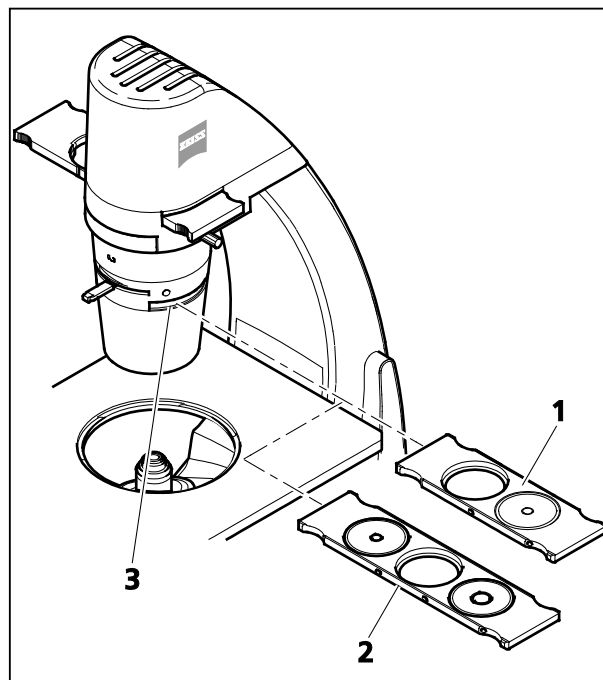

Fig. 6 Inserting the phase contrast slider
The 2-position Ph slider (Fig. 6/1) and the 3-position Ph slider (Fig. 6/2) are delivered completely, with phase contrast stops mounted.
- Push the Ph slider (Fig. 6/1 or 2) from the right or the left side, with the inscription facing upwards, into the condenser slot (Fig. 6/3) until it engages in the desired position.